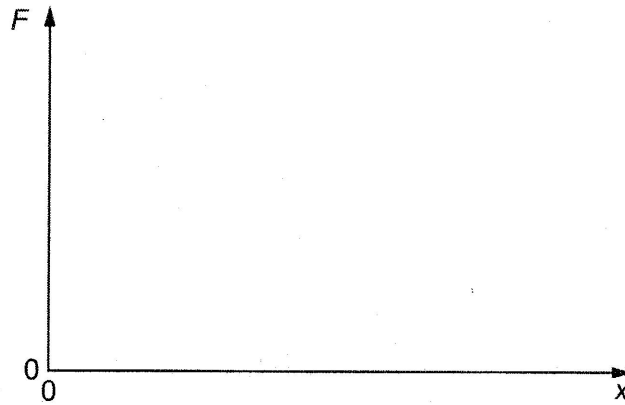

Fig. 3.2
- (ii) On Fig. 3.2, sketch the variation with  $x$  of  $F$  for a **brittle** material up to its breaking point.